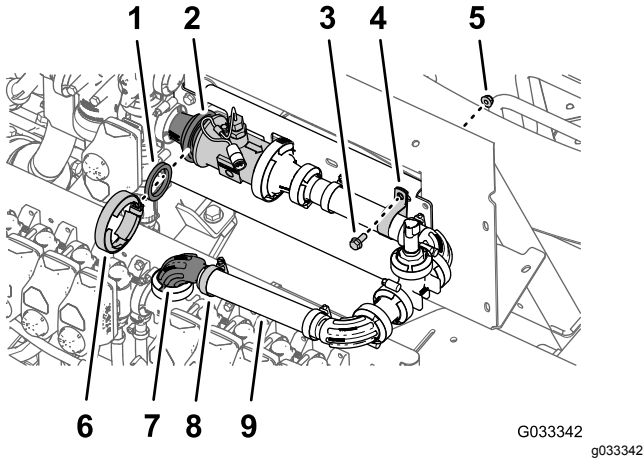

Figure 126
1. Align the gasket (2-1/4 inches) between the flow meter and the reducer adapter that is installed at the right side of the master control valve (Figure 126).
2. Loosely assemble the gasket, flow meter, and reducer adapter (Figure 126) with a flange clamp 76 mm (3 inches).
3. Loosely assemble the free end of the hose (1 x 8-1/2 inches) over the 90° flange fitting (1 inch) with a hose clamp (Figure 126).
4. Secure the pressure transducer and manifold to the manifold mount with a R-clamp, flange-head bolt (5/16 x 3/4 inch), and flange locknut (5/16 inch) as shown in Figure 126.